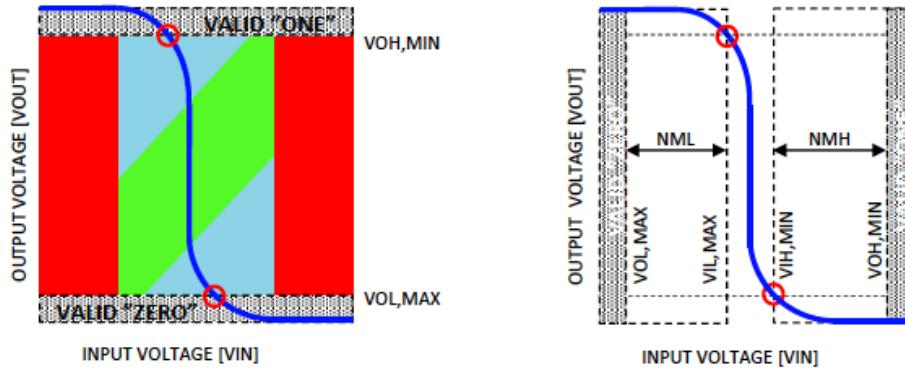

Figure 5.4: The The definition of noise margins.
a) Derive expressions for the low and high noise margins, NML and NMH, as defined in the Figure 5.4 using the following expressions for $(V_{OL,max}, V_{IH,min})$ and $(V_{OH,min}, V_{IL,max})$: